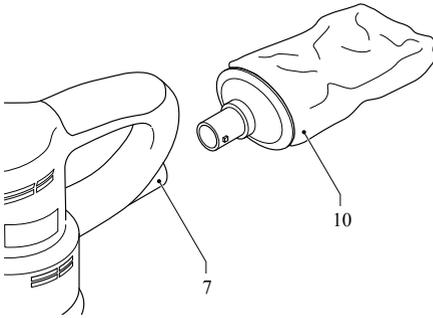

Fig. 3
- Turn the speed adjustment wheel (3) to the required position.
6.3 Dust extraction (fig. 3)